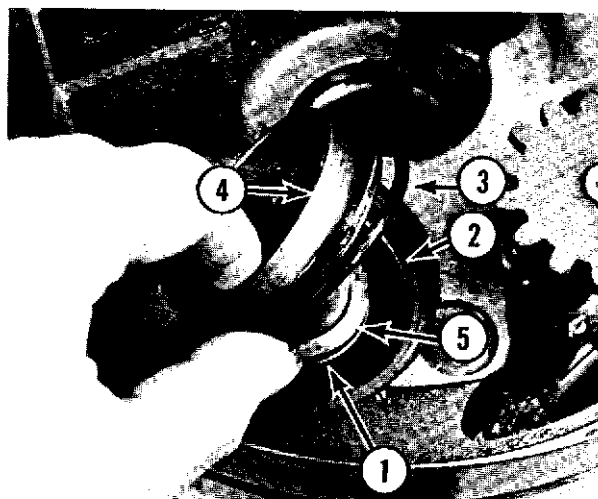

Fig. 10-12
- F. Install the agitator shaft spacer (V-1401) and the upper bearing (1, Fig. 10-12) and the retaining ring (2, Fig. 10-12).
- G. Lightly coat the "O" ring with Permatex #2, and install the "O" ring (3, Fig. 10-12) and oil baffle (4, Fig. 10-12). Secure with the two screws.
- H. M-802 only. Install the agitator shaft spacer and internal pinion shim (5, Fig. 10-12).